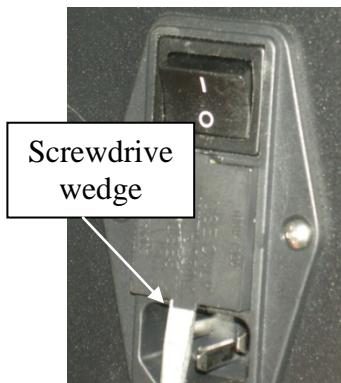

FIG. A1
1) The main power switch contains a fuse holder where the input supply is switched. The fuse holder (Fig A2) is removed by placing a small flat blade screw driver in the notch at the bottom edge and wedging it out (Fig. A1). It is tight and will take some effort to get it out. Do not twist the screw driver. Just push it into the notch and pry. Once out the fuses can be changed and the fuse holder rotated one half turn, and slipped back into the slot.